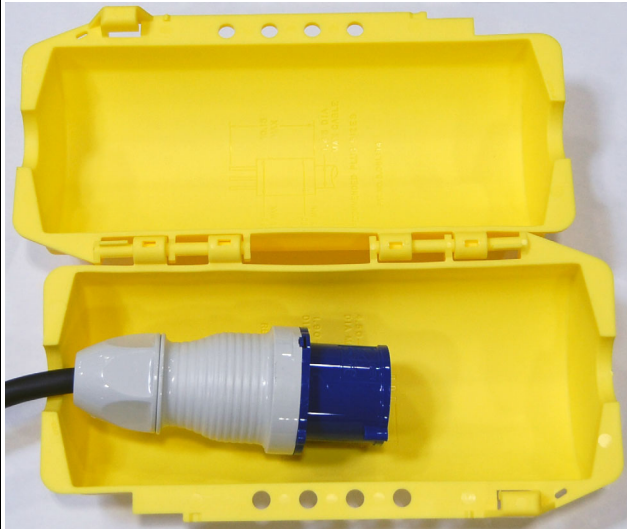

Figure 2-18: OPEX Lockout Devices
3. Install the OPEX lockout device over the AC plug as follows (refer to Figure 2-18 on page 83):